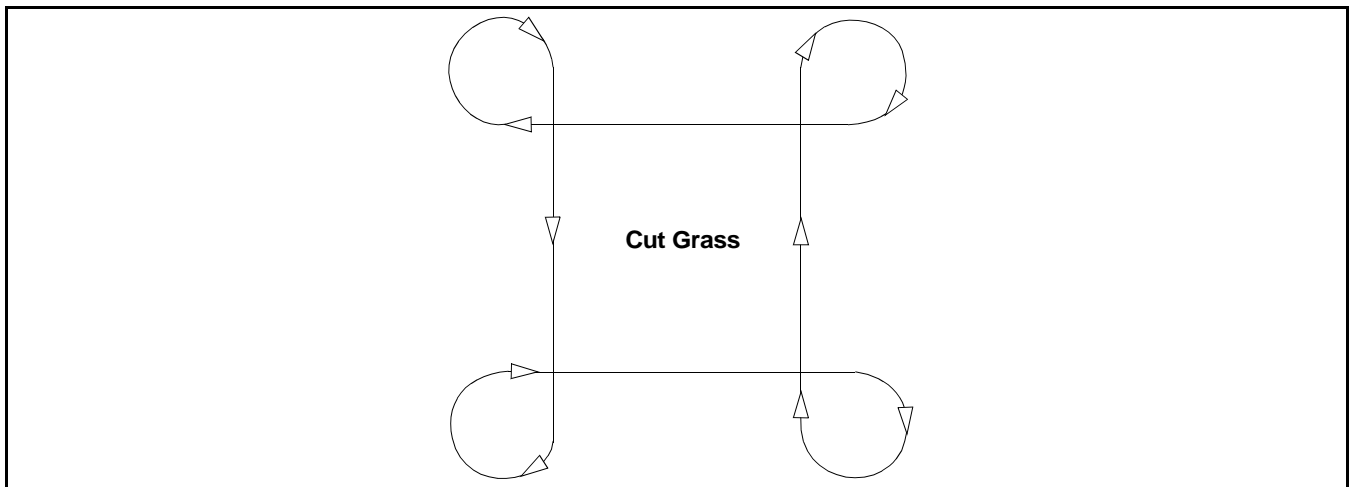

Figure 12
4. Follow the mowing path shown below. (See Figure 12).